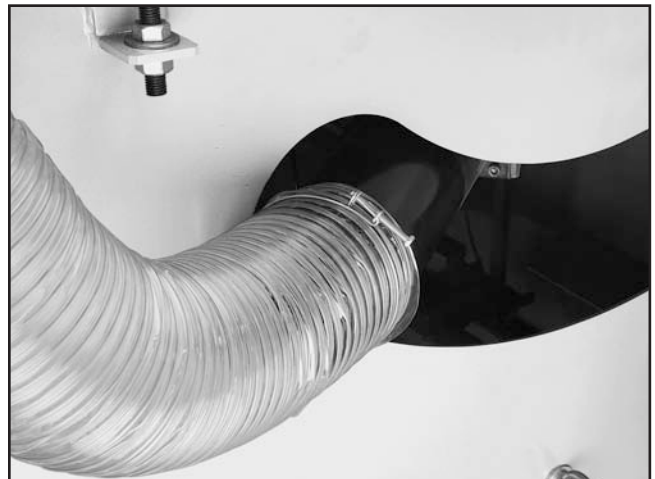

Figure 53. 5" dust port location.
1. Secure a 5" dust hose to the port located under the table on the left side with a hose clamp, as shown in **Figure 53**.